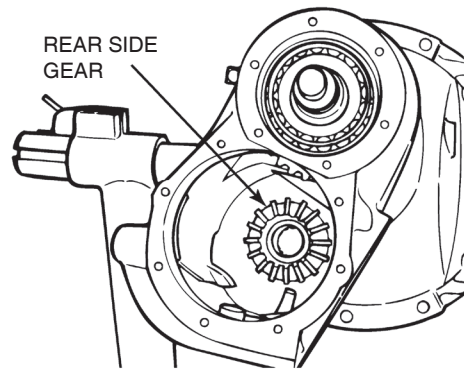

Figure 3.25
10. Remove the rear side gear and the bearing cone from the differential. Remove the collar. Figure 3.25.